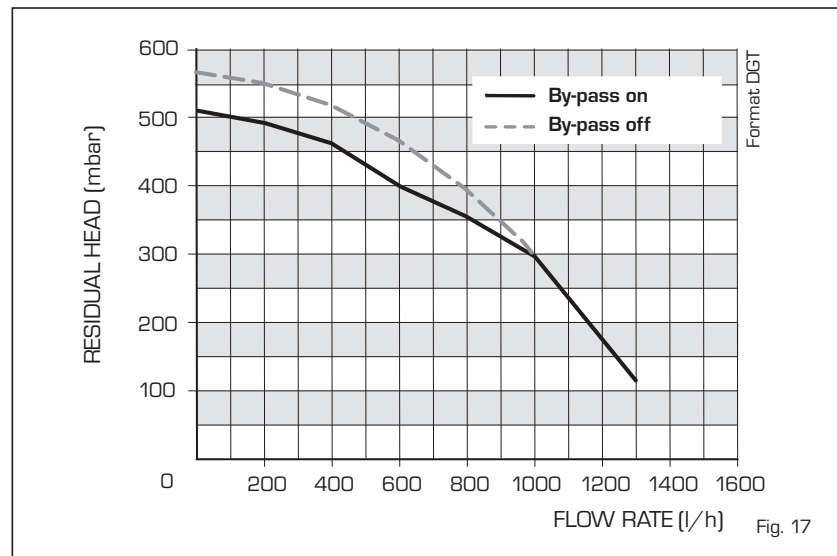

Fig. 17
3.11 WATER PRESSURE VALVE (fig. 17/a)